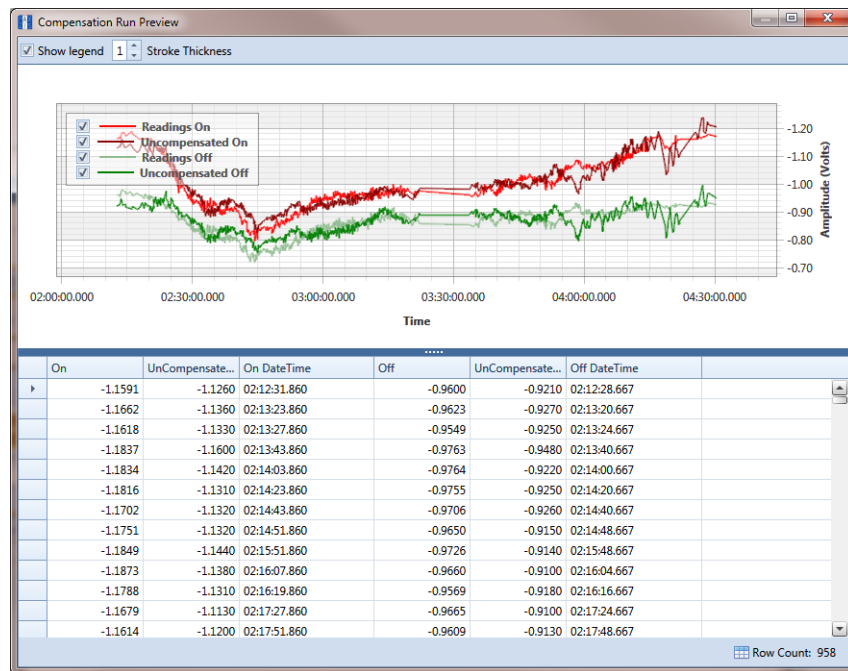

Figure 14-36. Compensation Run Preview
- d When the compensation process completes, click  **Preview** to view a graph of compensation results (Figure 14-36).